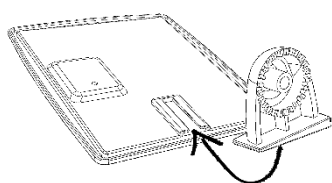
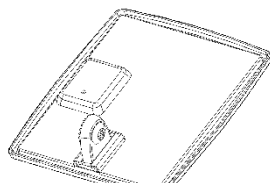

Fig. 9
Fig. 10
- a. Insert Part A into the groove at the bottom of Part F with the tapered end of the wedge going into the lamp (**Fig.9**). **NOTE:** Push the part into the groove firmly so it does not easily slide out. (**Fig.10**)